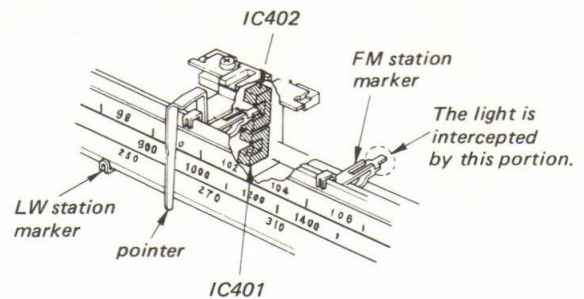

Fig. 2
- 3 Match the dial pointer to the desired Station Marker. (See Fig. 2)
- d) D201 is opened, B+ voltage is not supplied to the terminal (23) of IC201.
- e) FM circuit operates (The terminal (23) of IC201 serves as a switch).